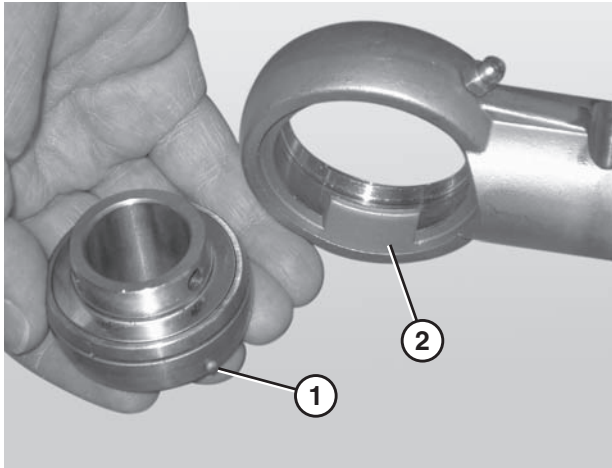

Figure 89
5. Remove the worn or damaged bearing (**Figure 89, item 1**).
*When inserting the new bearing, make sure the anti-rotation notch (**Figure 89, item 1**) on the bearing lines up with the groove inside the housing (**Figure 89, item 2**).*